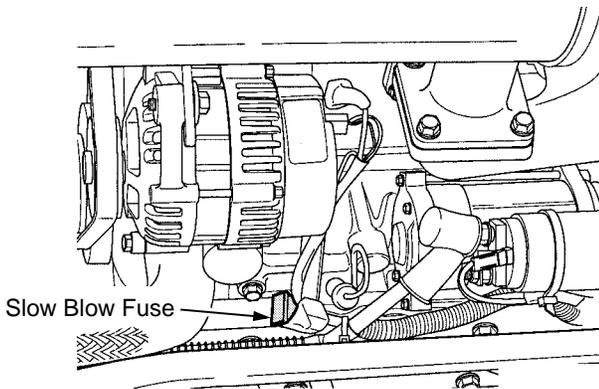

Figure 80
- Locate the slow blow fuse in the wire harness behind the left side panel. See Figure 80.